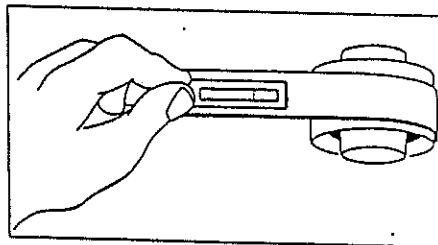

Fig. 3
2. Position the base of the gauge in the center and on the top side of the belt midway between the two pulleys. (See Fig. 3)